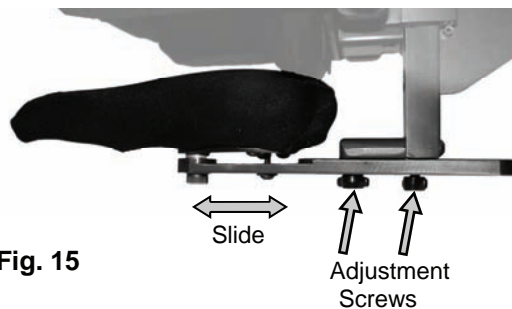

Fig. 15
- The seat has been pre-set at the factory to align with the center axle position on the frame. If it is necessary to alter the depth of the seat, loosen the two adjustment screws (fig. 15). Slide the seat forward or rearward as required and re-tighten screws.